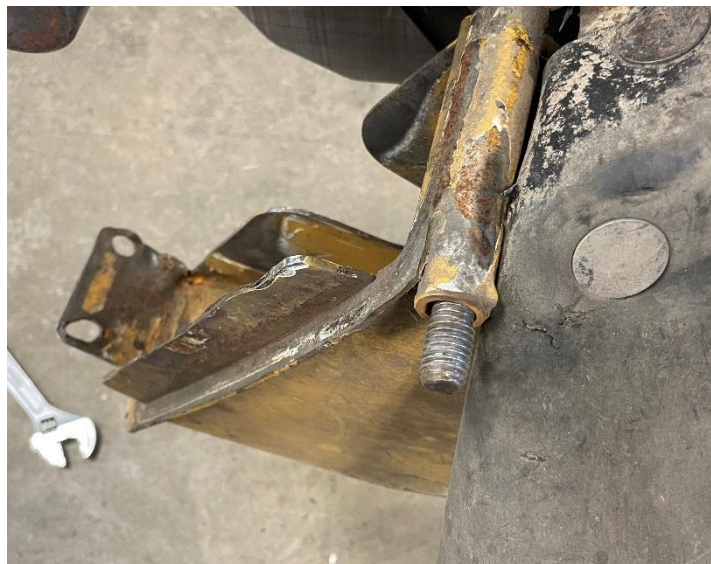

Figure 1.10
14. Remove the bottom drive sheave cover bolt and reinstall so the threads are facing the outside of the machine as seen in Figure 1.10. **If this step is missed the wheel will not have clearance to spin freely.**